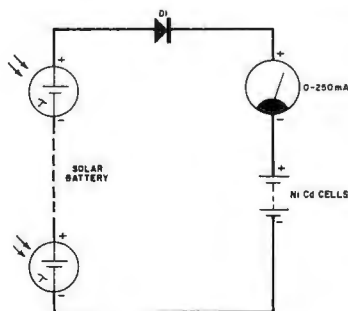

Fig. 3. Using a milliammeter.
- When assembling the array, temporarily wire the solar cells together and connect them to the batteries through a milliammeter as shown in Fig. 3. The current level should not